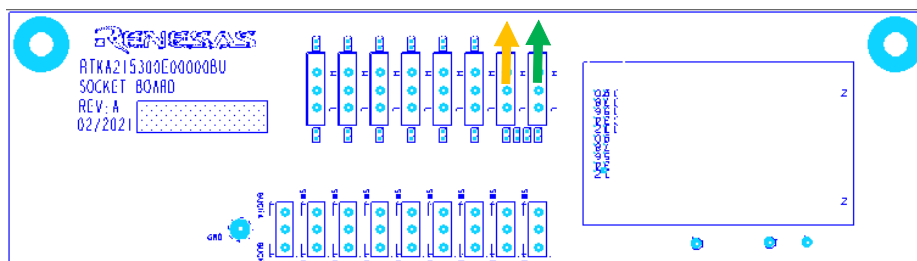

Figure 7. PWRON Switch
2. Switch PWRON on (see the orange arrow in Figure 7) to enable the regulators. Regulator output voltages are established in the sequence set in the relevant registers.